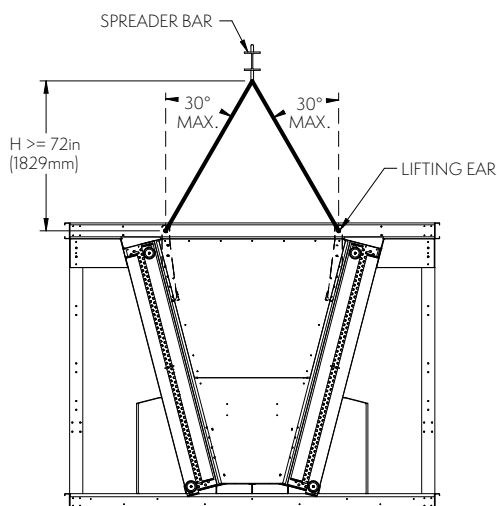
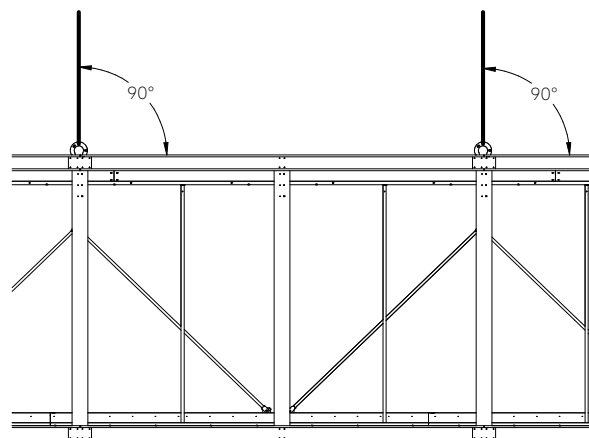

Figure 20.1 – Lower Section End Elevation View
Figure 20.2 – Lower Section Side Elevation View
3. Care must be taken to ensure that the 'H' dimension for the crane lift is greater than or equal to 6' (1.8m) from the lifting ears as shown in Figure 20.1. When viewed from the side, the lifting angle must **ALWAYS** be 90° (perpendicular) to the top of the unit, as shown in Figure 20.2. The centerline distance between the lower section lifting ears on the end elevation view is 5' 5-3/4" (1670mm).